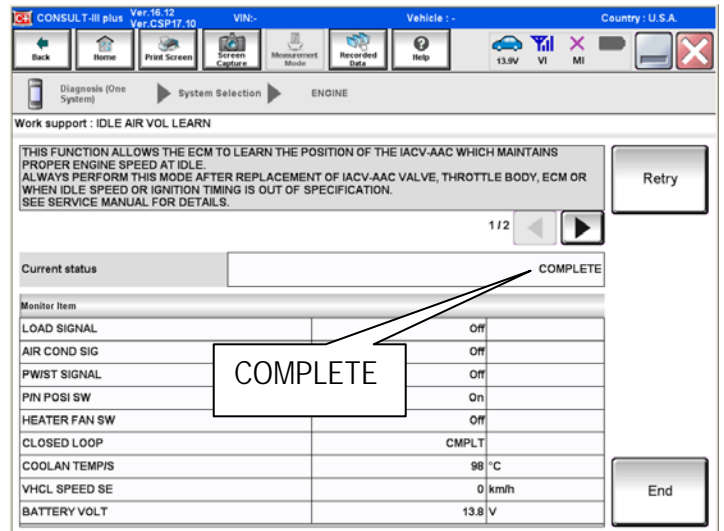

Figure 5
- CIII plus will display "COMPLETE" in the Current status box when the IAVL procedure is finished. See Figure 5.